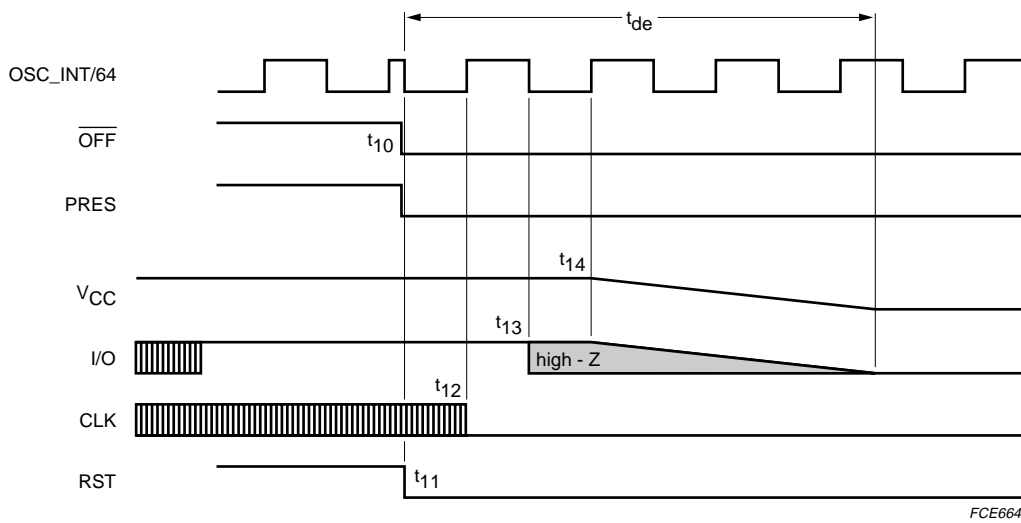

Fig.8 Emergency deactivation sequence.
2. **CMDVCC LOW:** (within a card session) then,  $\overline{OFF}$  falls LOW if the card is extracted, or if a short-circuit has occurred on VCC, or if the temperature on the IC has become too high. As soon as the fault is detected, an emergency deactivation is automatically performed (see Fig.8).